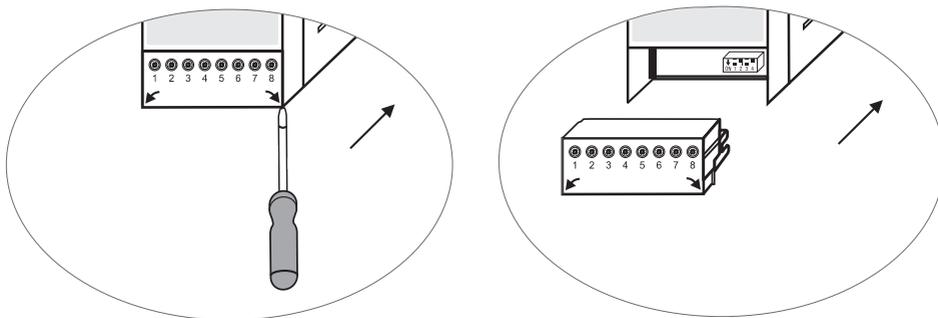

Fig. 22
- Remove the upper and lower terminal strips (Fig. 22)